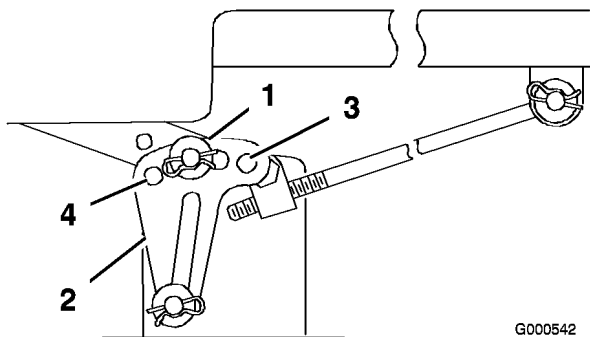

Figure 42
- Remove the hairpin cotter and washer from the leveling bracket (Figure 42).
- To level the blade(s), reposition the leveling bracket(s) in a different hole and install the washer and hairpin cotter. (Figure 42). A front hole lowers the blade height and a rear hole raises its height. Adjust both sides as required.